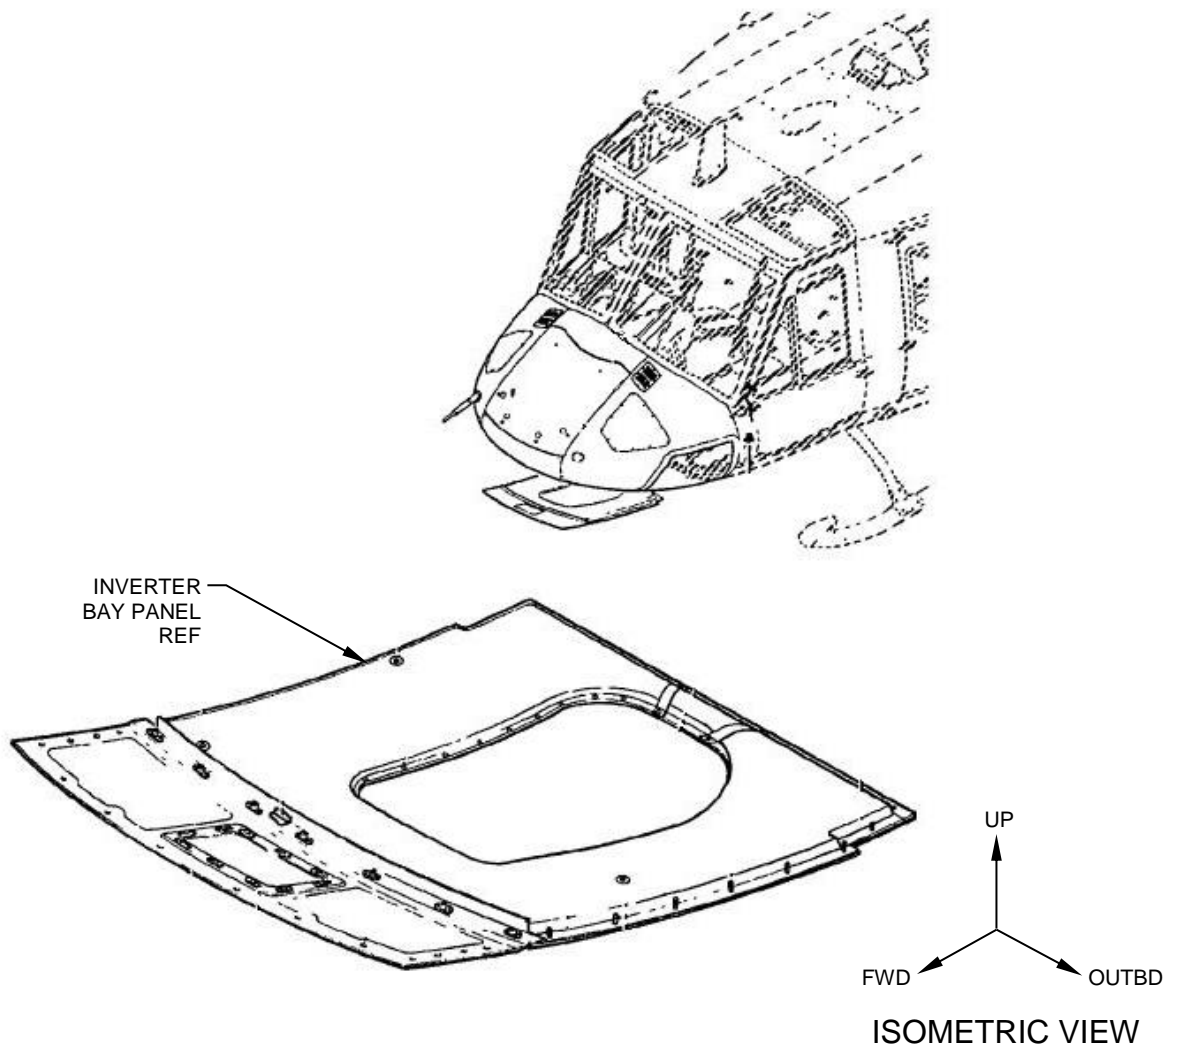

Figure 1
1. Gain access to the inverter bay panel on the underside of the aircraft nose. Reference Figure 1.
2. Remove the inverter bay panel P/N 212-030-206-003. Reference Figure 1.